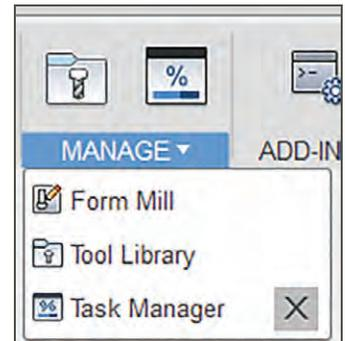

FIGURE 13-15: The Manage menu
- ▶ **Manage:** This menu provides Form Mill, Tool Library, and Task Manager options (Figure 13-15).